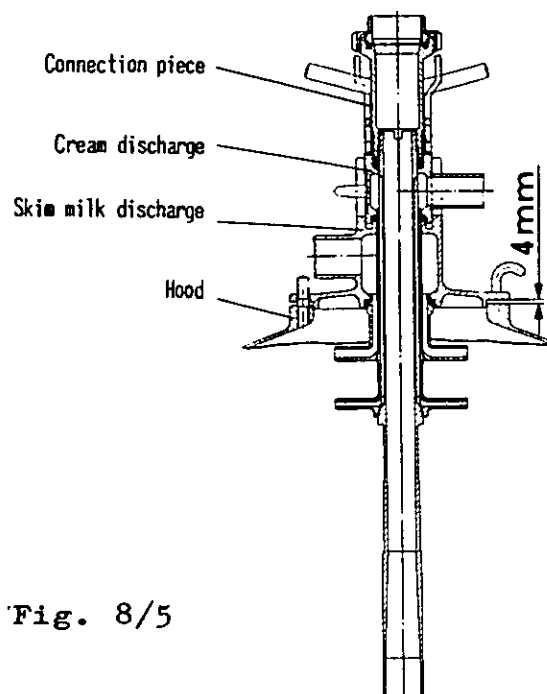

Fig. 8/5
- c) that the connection piece (fig. 8/5) is tightened firmly.
The bowl height is correct when after loosening of the cap nuts, skim milk discharge together with cream discharge and connection piece can be raised so that there is a clearance of 4 mm between upper rim of hood and contact surface of skim milk discharge (fig. 8/5). If the clearance does not conform to this measurement, the bowl height has to be re-adjusted (see 8.3.2).